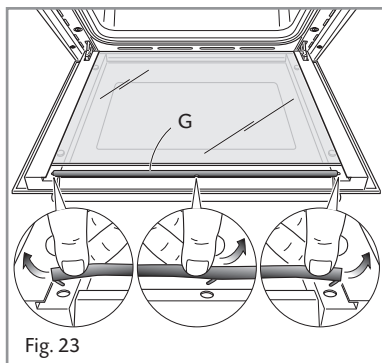

Fig. 23
- Top oven door only: remove the seal **G** by unhooking the no. 3 fixing hooks (fig. 23).